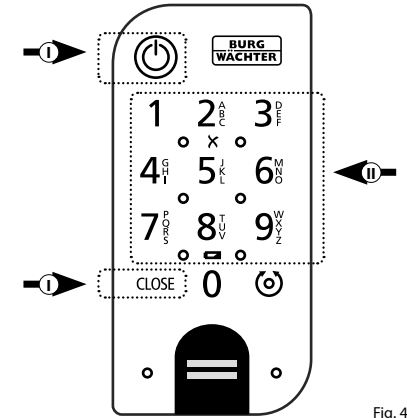

Fig. 4
- 1 Activate the keypad by pressing either the ON key or the CLOSE key (I) (Fig. 4).
- 2 Enter your 6-digit administrator code or programmed user code (II) (Fig. 4).